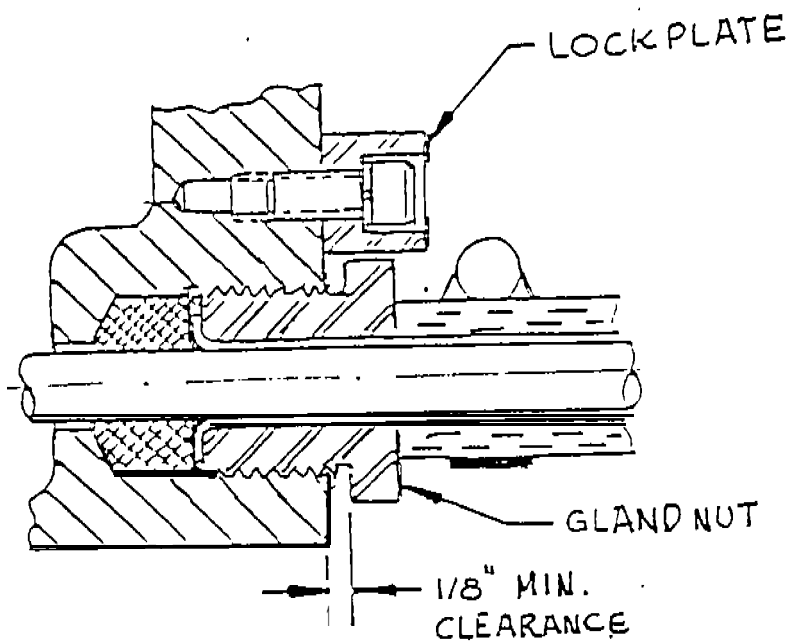
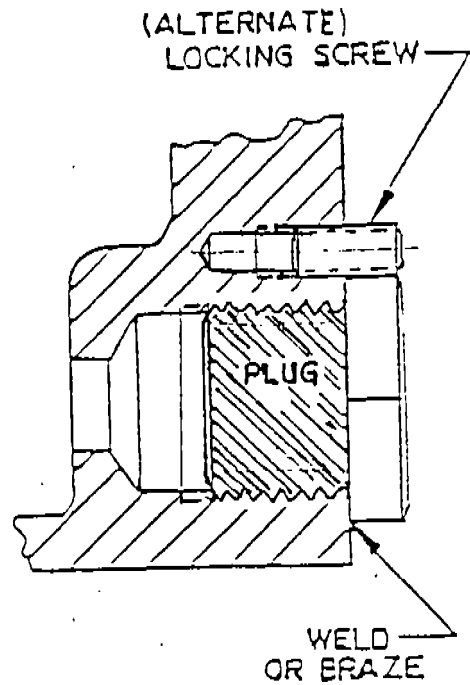

FIG. 1
FIG. 2
- (WEEKLY) 4. () All packing nuts and stuffing boxes are secured from loosening by a locking screw, wire, or other means (Fig. 1),. All unused lead entrances are closed with metal plugs which are secured in place by spot welding, brazing, or equivalent (Fig. 2).
- (WEEKLY) 5. () All threaded covers are secured from loosening by a locking screw, wire or other means (Fig.2).
- (WEEKLY) 12. () All lead entrances (packing glands) are assembled so that the cable jacket penetrates into the enclosure and when tightened, a 1/8 inch clearance remains between the packing nut and the stuffing box (Fig.1).